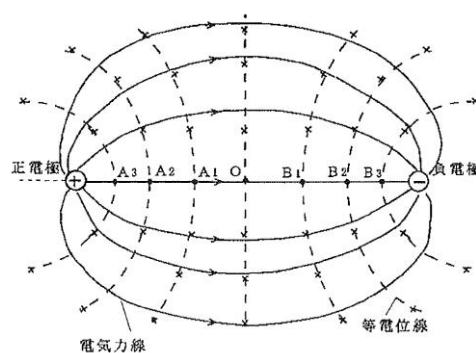

Fig. 3
- ⑥ After drawing the equipotential points, switch of the power supply or remove the battery from the box and remove the conductive paper from the measuring board. As shown in figure 3, connect with black pencil the equipotential dots in a shape of smooth curve and if you with red pencil draw lines of electric force orthogonal to the equipotential lines you can clearly see the shape of the electric field.
- ① Same as when we used Point electrodes earlier, draw a horizontal line in the center of the conductive paper with pencil, in the middle of the line mark 0 and then place the conductive paper on the rubber magnet sheet. Place the positive (red) and negative (black) terminals 16cm away from the horizontal line, then position the terminals so that 0 is in the middle between them and make the electrodes to be touching the conductive paper. Draw an outline of the electrodes with the pencil on the conductive paper
- ② Same as when we used Point electrodes earlier, connect test leads to digital tester. Set the measurement unit to DC voltage. Fix the tip of the negative test lead to middle point 0 and slide the tip of the positive test lead from the middle point 0 following the horizontal line to the side where positive terminal (A) is located. Mark each 1V of electric potential difference with small A1, A2 ... Furthermore, switch positive test lead for negative test lead and slide the tip of the negative test lead from the middle point 0 following the horizontal line to the side where negative terminal (B) is located. Mark each 1V of electric potential difference with small B1, B2, ...
- ③ Replace the digital tester with galvanometer, fix the tip of one test lead to the middle point 0, slide the other test lead vertically through the middle point 0 and where the needle of galvanometer will become 0 (equipotential line) mark x with pencil about 6 times in appropriate intervals.
- ④ Switch of the power supply or remove the battery from the box and remove the conductive paper from the measuring board. As shown in figure 3, connect with black pencil the equipotential dots in a shape of smooth curve and if you with red pencil draw lines of electric force orthogonal to the equipotential lines you can clearly see the shape of the electric field.